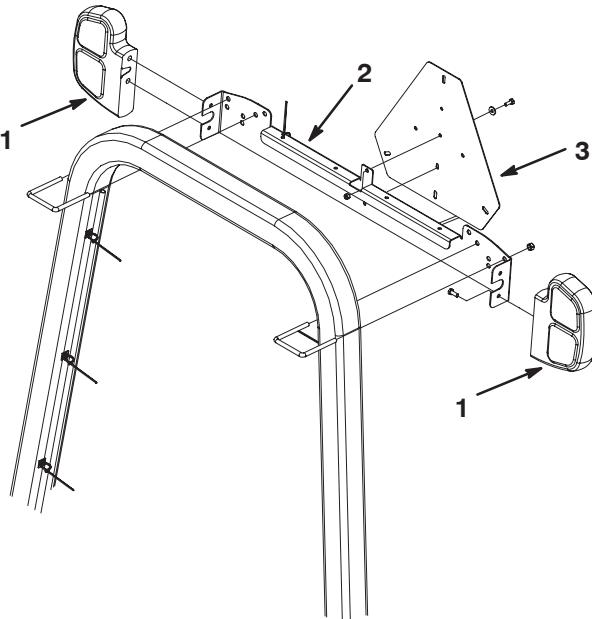

Figure 16
1. Mount the appropriate (R.H. or L.H.) tail light assembly to each end of the light bracket with (2) (M8–1.25) screws as shown in Figure 16. The black lens should be toward the front of the machine. Torque the screws to 72 in-lbs. **Do Not Over Tighten The Screws.**
2. Loosely mount each end of the light bracket to the ROPS with a U-bolt and (2) (3/8–16) locknuts as shown in Figure 16.
6. Secure the harness to the ROPS with (3) mounting pads and cable ties (Fig. 16). Evenly space the mounting pads and cable ties on the ROPS tube. Make sure the surface is clean before affixing the mounting pads.
8. Secure the harness to the (4) holes in the light bracket with cable ties.
1. Mount the slow moving vehicle (SMV) emblem to the light bracket with (2) (1/4 x 3/4 in.) screws, flat washers, and locknuts (Fig. 16 & 18).